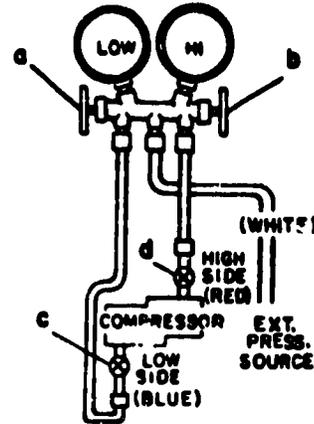

Fig 3-10.
**HIGH SIDE** (refer to fig 3-10).